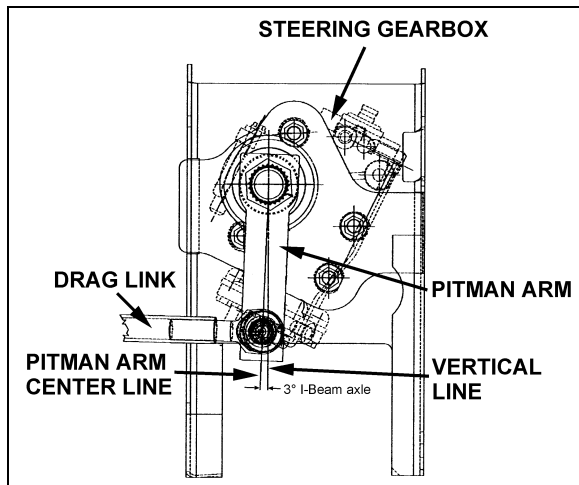

FIGURE 16: PITMAN ARM ADJUSTMENT
2. Using a protractor, check the angle of the pitman arm (refer to Figure 16 for details).